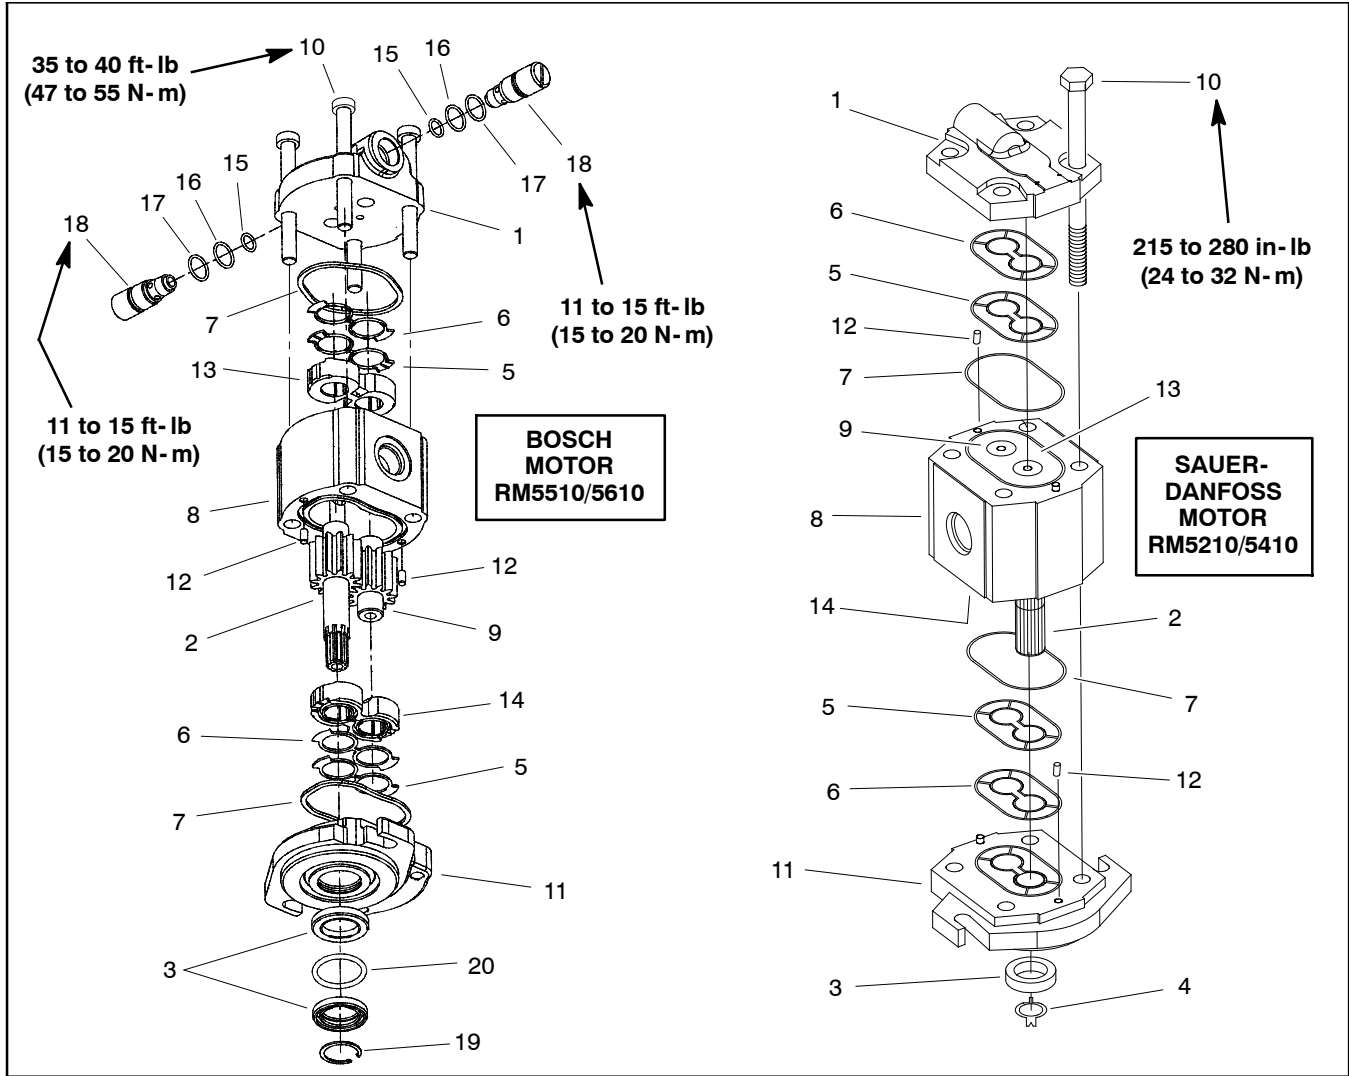

Figure 85
Disassembly (Fig. 85)
Assembly (Fig. 85)
12. Place motor front flange in a vise and alternately torque the cap screws to the specifications identified in Figure 85.